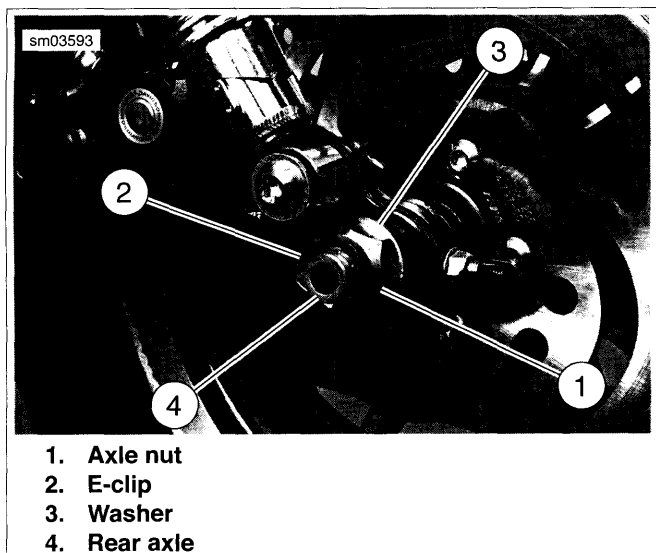

Figure 2-12. Rear Wheel Mounting (typical)
5. See Figure 2-12. Remove e-clip (2), axle nut (1) and washer (3).
7. Gently tap end of axle (4) with a soft hammer to loosen. Pull axle free of rear fork assembly.